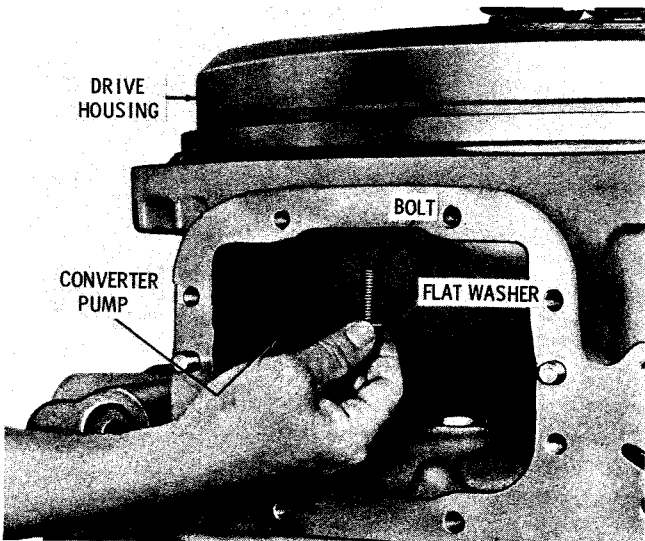
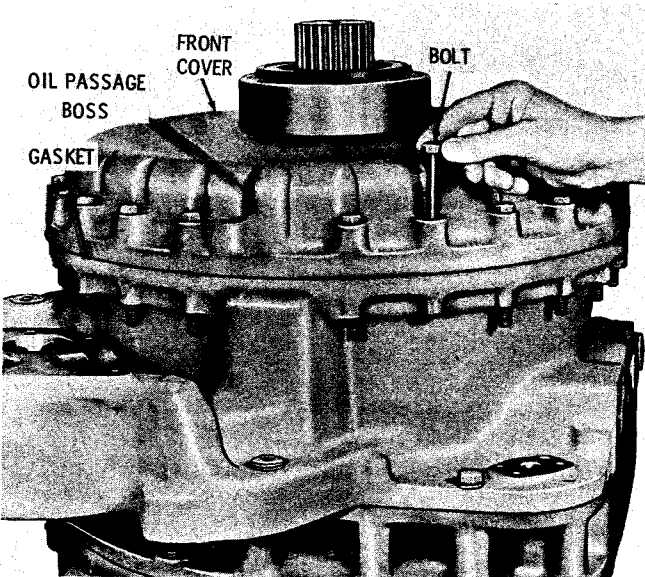

Fig. 7-88. Installing converter drive housing bolts S1727
Fig. 7-89. Installing converter housing front cover bolts S1728
(13) On all remote-mount models, rotate the drive housing on the converter pump to align the bolt holes (fig. 7-88). Through the PTO opening, install four 3/8-24 x 1 1/4-inch, self-locking bolts, with flat washers, at 90° intervals. Tighten these bolts to 10 pound feet torque.
(14) Install the remaining 32 bolts and flat washers. Tighten all 36 bolts to 41 to 49 pound feet torque.
(15) Install the gasket and converter housing front cover, aligning the oil passages (fig. 7-89). Secure the cover with twenty-one 7/16-20